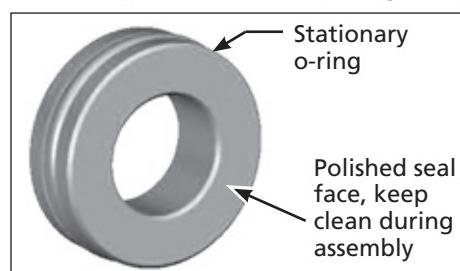

Figure 8
1. Obtain a new mechanical seal rotating assembly and seat (reference numbers 8a and 8b on page 11). Seal parts must be replaced as a set. Do not mix old and new parts. Lubricate seal stationary o-ring with a very small amount of dish soap. Do not allow soap, dirt, grease, or any contaminates on the polished seal face (see Figure 8).